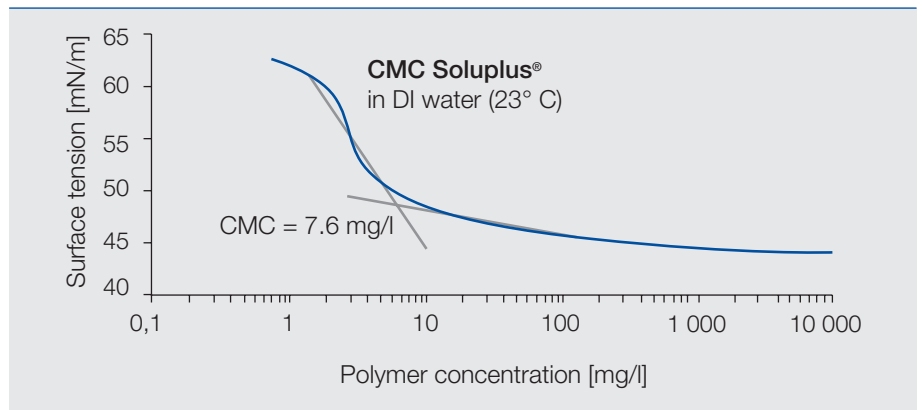

Figure 2
7.6 mg/L (surface tension curve shown in Figure 2)